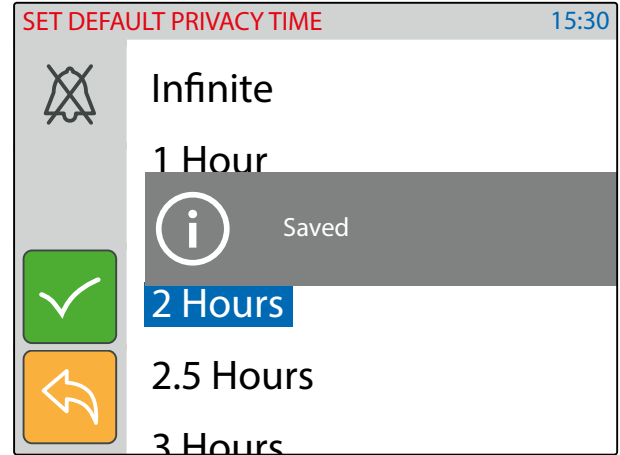

Fig. 8 Save the selected value
- Swipe among the values to select the required then tap on the tick button to confirm the value (Fig. 8).
- A notice will inform that the value is saved (Fig. 8).